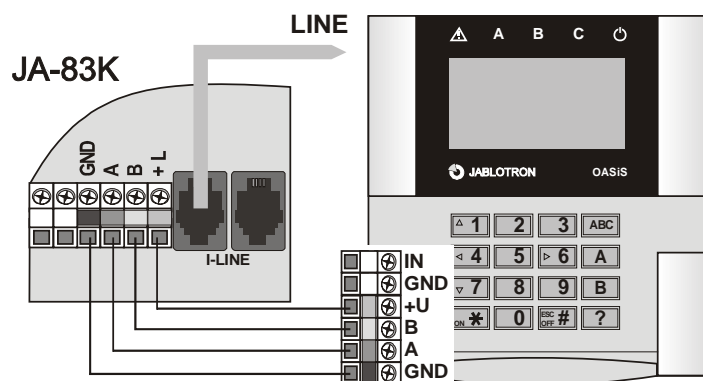

fig. 1 Connection with the control panel
- o Use a flat four-wire telephone cable with RJ connectors (max. 10 metres) but only for temporary (test) installation. There is a digital bus connector called LINE in the control panel, and in the keypad too. See fig. 1.